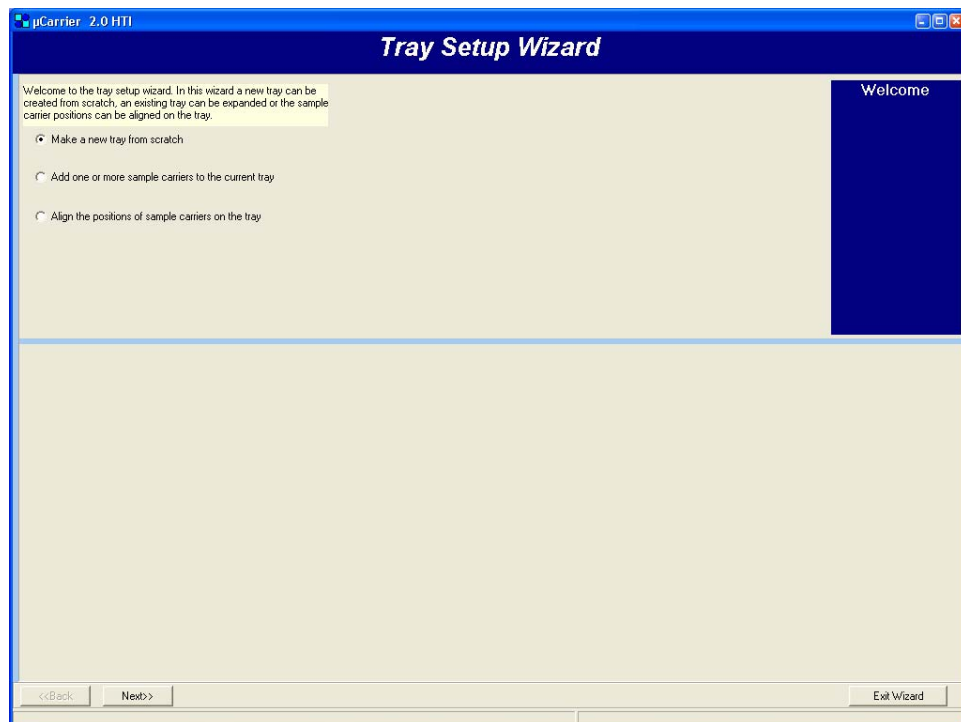

FIGURE 2-29 Tray Setup Wizard – Welcome Screen
- c) The welcome screen of the *Tray Setup Wizard* is presented (FIGURE 2-29). Select the 'Make a new tray ...' option and confirm with the **Next** button.